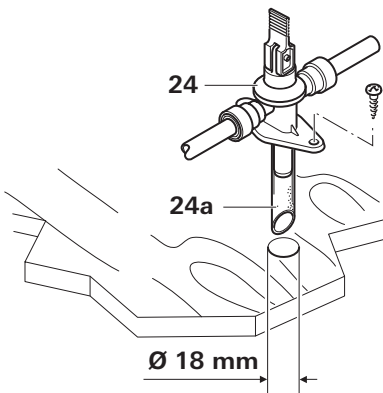

Fig. 25
**!** The discharge pipe (Fig. 25 - 19a) is to be installed directly to the outside at a position protected against splash water (apply splash guard, if necessary).
Cut off the aeration hose about 20 mm below the vehicle floor at a 45° angle to the direction of travel (see figure 25).